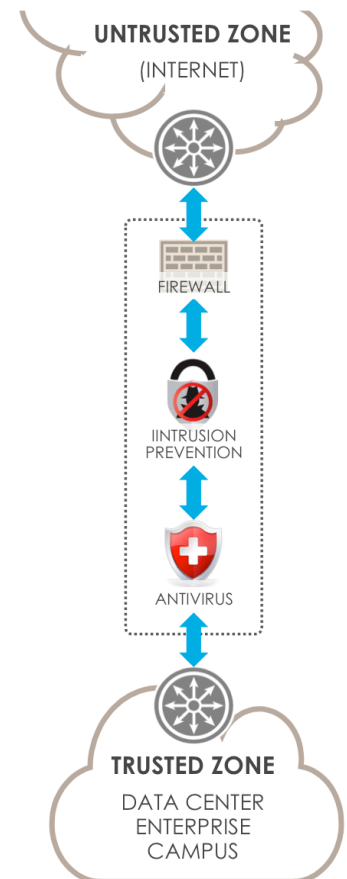

Figure 1: Traditional Security Tool Deployment in DMZ
**Approach 1:** Placing the security tools sequentially inline between the production nodes as shown in Figure 1. There are several challenges with this approach: